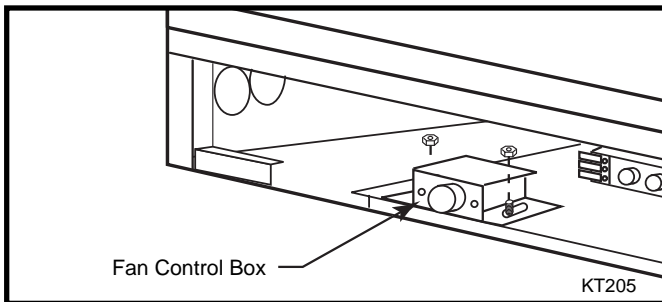

Fig. 47 Remove fan control box.
- a. Remove the Fan Speed Control Box (Fig. 47)